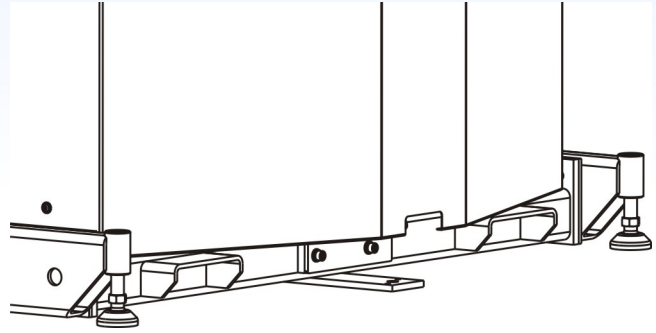

Figure 8 - Fork Pockets
5. Next, adjust the fork spacing on the forklift to 24 in. (610 mm) between the forks. This fork spacing is required to properly engage the fork pockets, as shown in Figure 8. The lifter is designed to accommodate 5.50 - 6.00 in. (140 - 152 mm) wide forks at this fork spacing. Insert the fork tops completely into the fork pockets on the rear of the lifter. Slowly lift the unit until there is approximately 3.00 in (76 mm) of clearance between the rear leveling feet and the pallet surface. At this time, with the rear of the unit evaluated, adjust each leveler downward 0.50 in. (13 mm). This corresponds to 5 (five) complete revolutions.
4. Next, adjust the fork spacing on the forklift to 24" (610 mm) between the forks. This fork spacing is required to properly engage the fork pockets as shown in Figure 8. The lifter is designed to accommodate 5.50 - 6.00 in. (140 - 152 mm) wide forks at this fork spacing. Insert the fork tips completely into the fork pockets on the rear of the lifter. Slowly lift the rear of the unit until there is approximately 3.00 in. (76 mm) of clearance between the rear leveling feet of the floor.